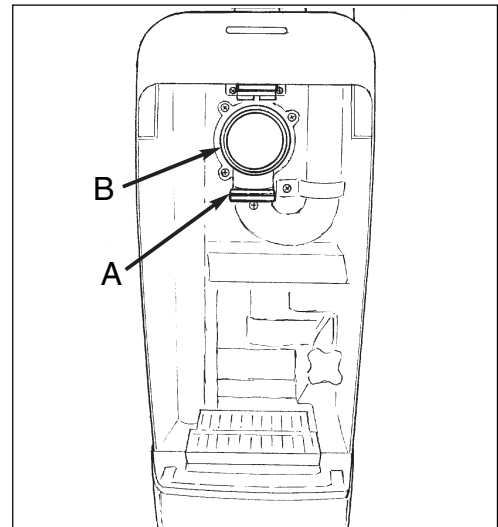

Figure 18
- c. Place the bottom of the cardboard inlet into the slot under the bag adaptor (see figure 18, item A)
- d. Put the opening of the cardboard inlet over the bag adapter (see figure 18, item B).